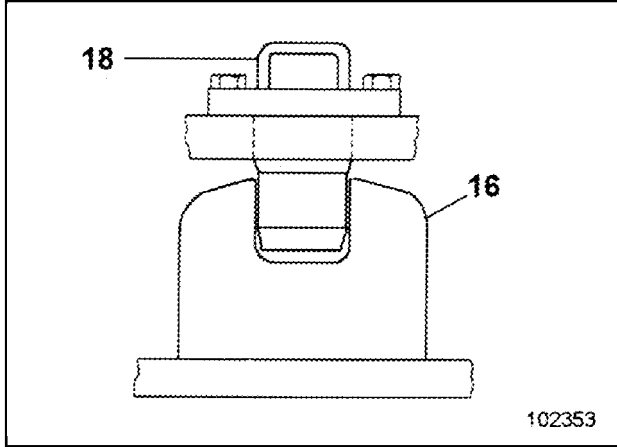

Fig. 2
Fig. 2 shows the location of warning and instruction signs on the machine.
(Fig. 2)
- Lock the superstructure (Fig. 2).